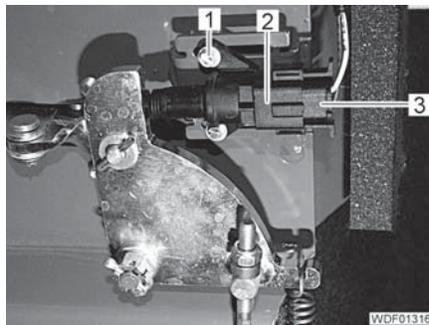

Fig. 435 Switch attachment
- Remove the plug (Fig. 435,3).
- Mark the position of the switch (Fig. 435,2) on the step plate.
- Unscrew the 2 screws (Fig. 435,1).
- Remove the switch (Fig. 435,2).
- Screw in 2 screws (Fig. 435,1) with spring lock washers and disks.
- Attach the plug (Fig. 435,3) onto the switch.